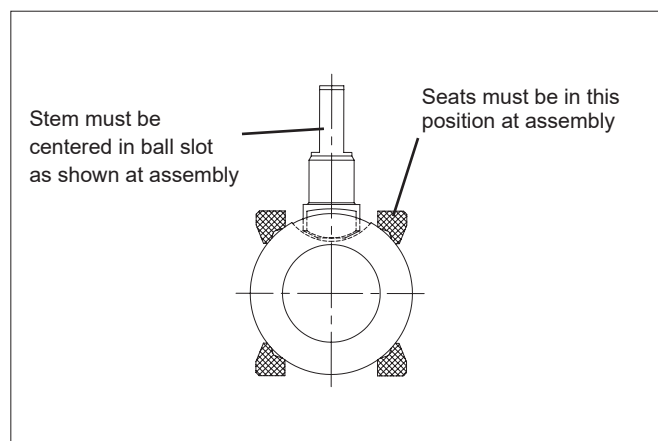
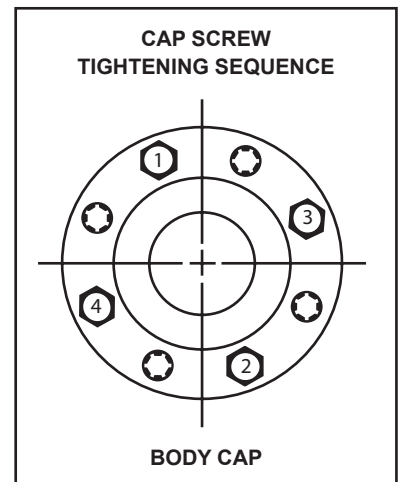

Figure 2. Proper Seat and Ball Orientation
Figure 3
3. Carefully clean and polish the ball (3) sealing surface: It should be free of all scratches and grooves.
5. The valve needs to be raised above the working surface slightly because the ball protrudes slightly from either end of the valve when in the closed position. With the body cap side facing up, slide one valve seat (5) sideways into the body (1) to below the stem bore, and tilt it into place so that the proper surface (see **Figure 2**) will be adjacent to the ball (3), being careful not to cut or scratch the seat.
6. From inside the body (1), insert the secondary stem seal (7) and the bottom stem seal (8) into the body (see **Figure 3**).
7. Insert the stem (4) through the body cap end of the body (1), being careful not to scratch the stem sealing surface; and press it gently up into the stem bore until resistance is felt from the bottom stem seal (8).
8. Hold the stem in place from the bottom and insert the top stem seals (8), for Model 'A' version, or (24) for Model 'B' version (see **Figure 3** for proper v-ring orientation), over the stem (4).
9. Place compression ring (21) and indicator stop (12) over stem (4).
**NOTE:** Make sure that the side of the indicator stop (12) marked "BOTTOM" is towards the compression ring (21).
10. Place the lower stem nut (15) on the stem (4).
**NOTE:** Make sure that the side of the stem nut (15) marked "TOP" is facing away from the indicator stop (12).
11. Tighten the stem nut (15) until the stem seal(s) are fully seated. Then tighten an additional 1/8 to 1/4 turn.
12. Insert the ball (3) rotating it onto the stem (4) in the closed position. If necessary, turn the stem blade to align with the ball slot. Make certain that the stem blade is in the middle of the ball slot; i.e. equal distance from the ends of the slot. Rotate the ball if necessary (see **Figure 2**).
13. Gently place the body seal (6) into the machined recess of the body (1).
14. Place the second seat (5) into the body cap (2) with the proper surface adjacent to the ball, (see **Figure 2**).
15. Place the body cap (2) in the body (1) being careful to properly orient body cap and body as originally assembled by matching orientation marks made prior to disassembly. Take care not to damage body seal (6) or seat (5) during this operation.
16. Lubricate the threads of body bolts (10) with NeverSeez® or equivalent. Install body bolts (10) and tighten sequentially as shown in the diagram in (**Figure 3**), to the recommended values as shown in the "BODY BOLT TORQUES" chart in (**Figure 3**).
17. Aligning the slot in the handle with drive on the stem, lower handle (17) straight down in line with the valve stem (4) until it is completely engaged. Place the second stem nut (15) on the stem (4).
- NOTE:** Make sure that the side of the stem nut (15) marked "TOP" is facing away from the handle (17).
18. Tighten the stem nut (15).
- c. From **Figure 3**, the ballooned part number, part name and quantity required.